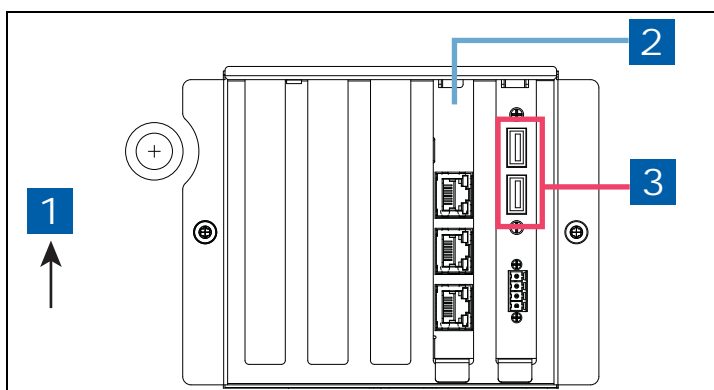

Figure 1. USB Module - USB ports
1. Beneath the left side of the TLS-450PLUS console, locate the USB module and insert the V-R Backup thumb drive, minimum 4 GB, (P/N 332970-004) into one of the external USB ports, P/N 333477-001 (see item 3 in Figure 1).
LEGEND FOR NUMBERED BOXES IN Figure 1